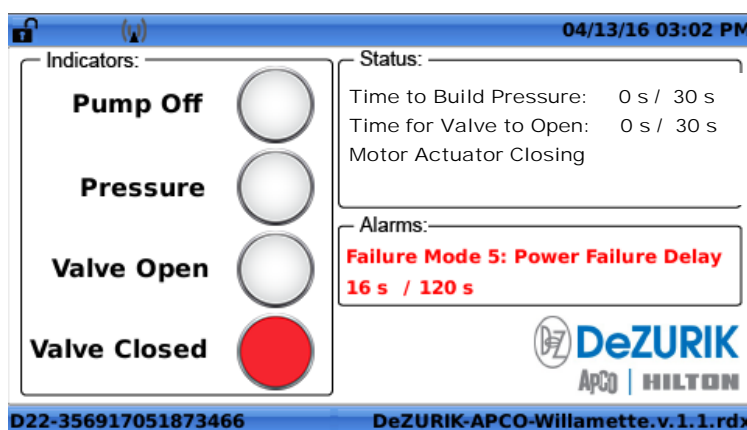

Figure 20B: ECB-CEM Controller Home Screen, Failure Mode #5.
5.7B For Electric Motor Operated Valves Model ECB-CEM (Figure 20B)